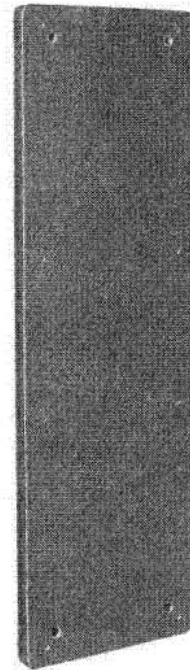

Fig. 24—KS-5796, List 9 Backboard
5.04 The KS-5796, List 9 backboard (Fig. 24) is a backboard with a light olive gray finish.